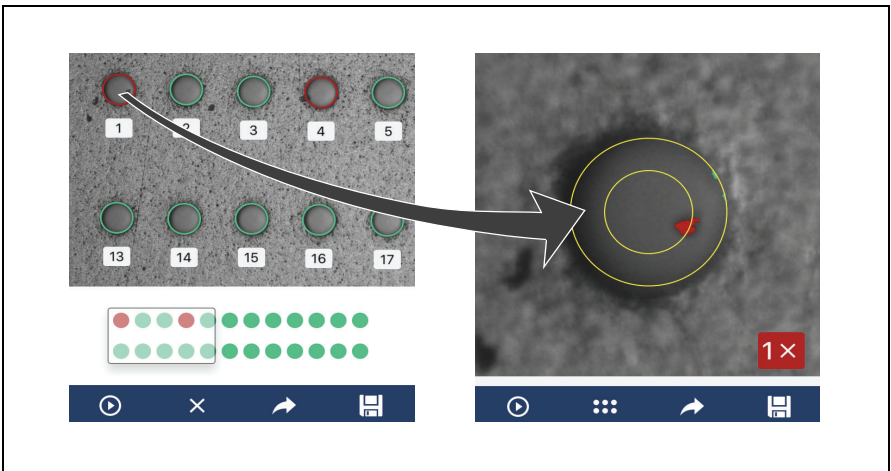

Figure 9. Image Analysis Screens (MPO shown)
1. On the **TEST RESULT SUMMARY** screen, if necessary, tap on the image of the connector to see a high-resolution image of the endfaces. See Figure 9. Use finger gestures to move or zoom the image.